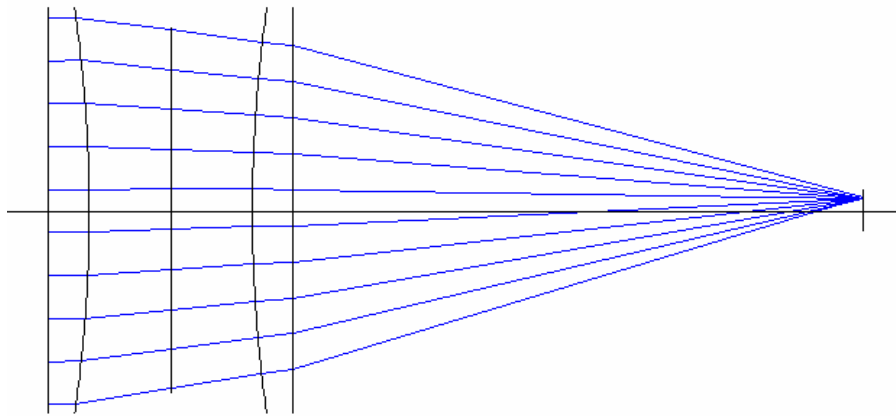

Figure 1: Schematic of doublet system.
- 2) We will now to consider a doublet which will accept light from a distant source (far-field). The design is as follows. We have two 10-cm diameter lenses which have the same focal length. They are placed 4 cm apart and have a 9-cm stop placed midway between them (see Figure 1). We would like the focal length to be about 15 cm (it need not be exact – so you can use the back focal distance as the focal length). Assume that $n = 2.1$ for both lenses.
Change the surface back to spherical. We will now optimize the system by “bending” the lenses. From the lensmaker's equation we see that adding a constant to the curvature of both side of a lens does not change the focal length. Figure 1 shows that the first lens consists of